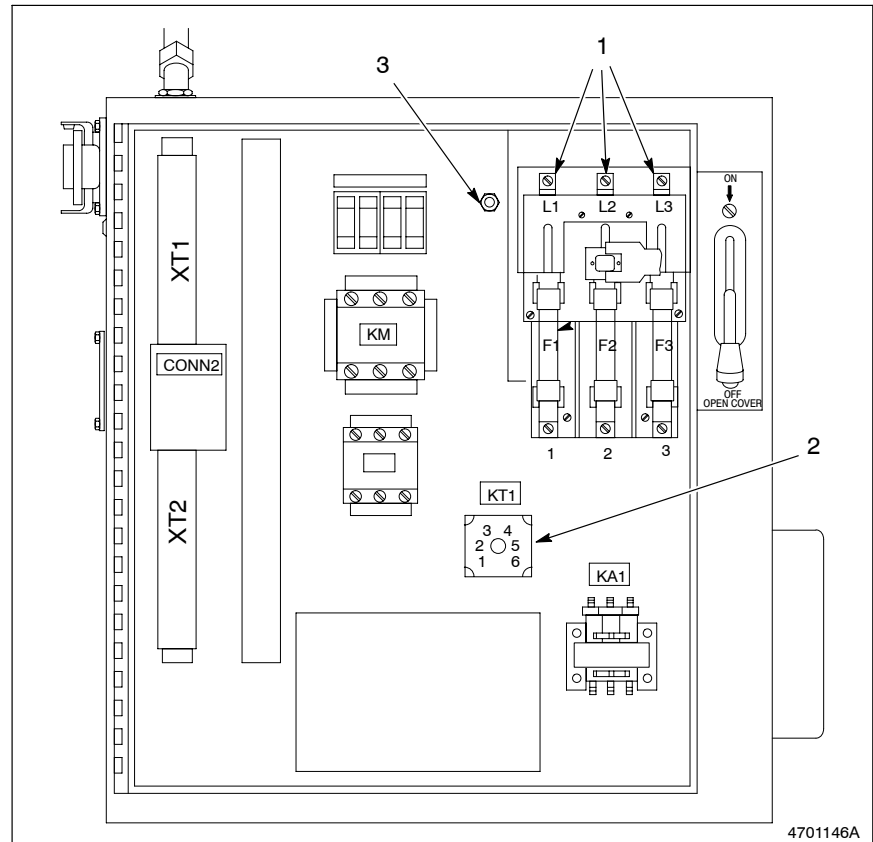

Fig. 3-5 Electrical Enclosure Interior
3. Locate the Platen Heater Control Circuit dip switch SW1 (2) on the LCU circuit board and verify the proper settings. Switch 1 should be set to OPEN and switch 2 should be set to CLOSED.
See Figure 3-5. Locate the timer module (2) inside the electrical enclosure and note its setting (the factory-setting is position 3—approximately one hour). The timer is calibrated in increments of 1 through 6. One is equal to approximately 10 minutes and 6 is equal to approximately 120 minutes.
4. See Figure 3-5. Unlatch and open the electrical enclosure and connect input power to terminals L1, L2, and L3 (1) at the main disconnect switch.
5. Connect the input power supply line ground wire to the copper terminal at the ground stud (3).